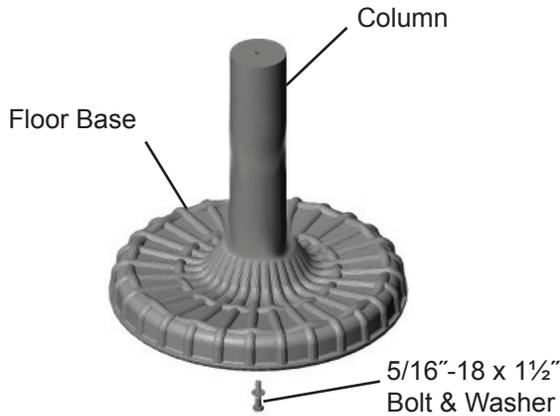

Fig. 18
1. Assemble Column to floor base using 15/16"-18 x 1 1/2" bolt and washer (Fig. 18). Do not overtighten.